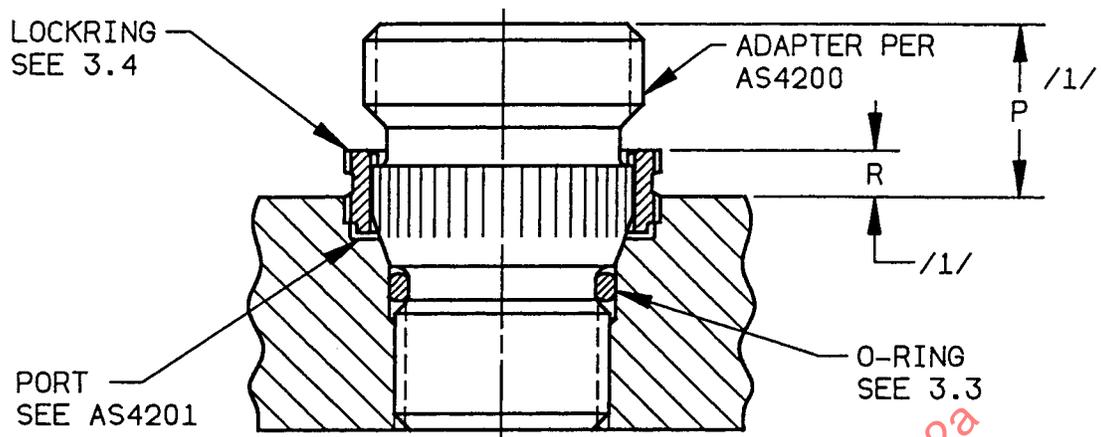

FIGURE 1 - Installed Adapter
- 3.2 Adapters per AS4200 and installed per this document into ports per AS4201 shall have a stand-off dimension "P" per Figure 1 and Table 1.